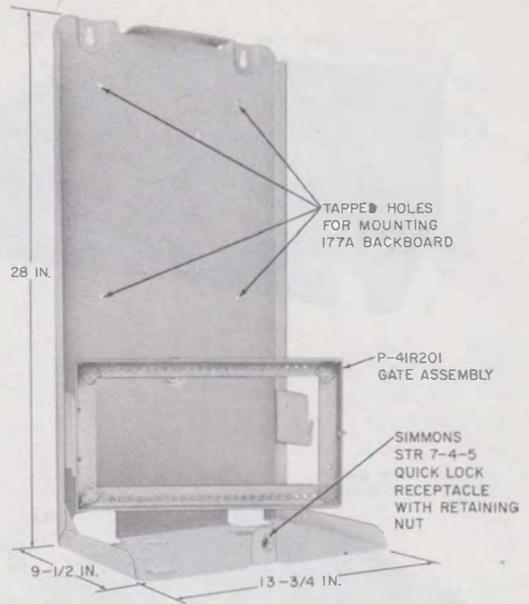

Fig. 33—Floor Stand Per ED-69462-50, Group 1
5.02 The floor stand per ED-69462-50, Group 1 (Fig. 33) is a steel floor stand designed to hold a 177A backboard or equivalent. An auxiliary gate is included for mounting a J86731D, List 1 power plant (or physical equivalent). The floor stand may be wall mounted, if desired, by means of slotted holes provided for the purpose.